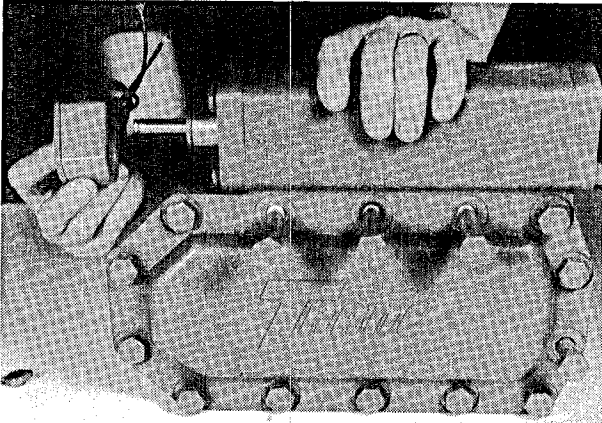

Figure 8
1. Remove retainer on the end of the valve stem and pull the solenoid valve coil and housing off the stem (Figure 8).